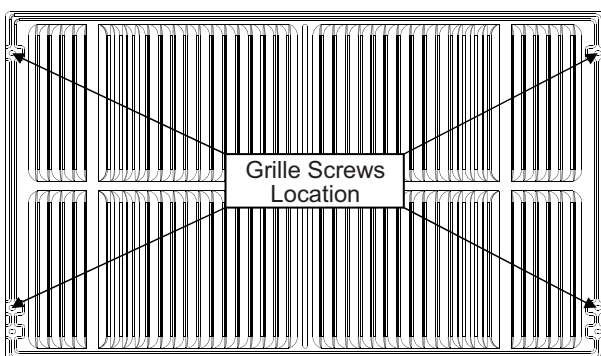

Fig. 2
4. If the unit has not been pre-drilled (some models), carefully drill 4 – 1/8" holes through the grille and into the side flange of the unit approximately 1 1/2 " to 2 " from the top and bottom as in Fig. 2, 3 .